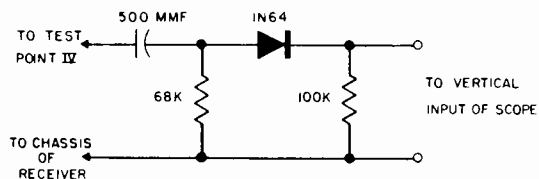

FIG. 2. DETECTOR NETWORK
2. Connect detector network (Figure 2) to Test Point IV and set contrast to maximum. Connect oscilloscope to network.